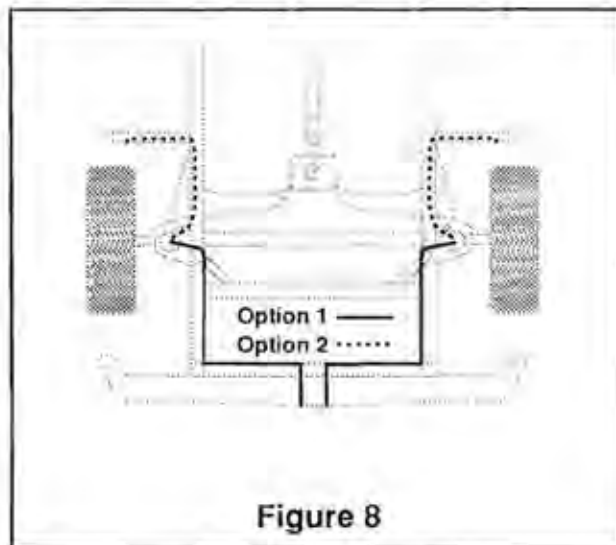

Figure 8
A. Select a location for the inflation valves in the rocker panel flange or rear floor pan insuring that each valve will be protected and accessible with an air hose (Figure 8).